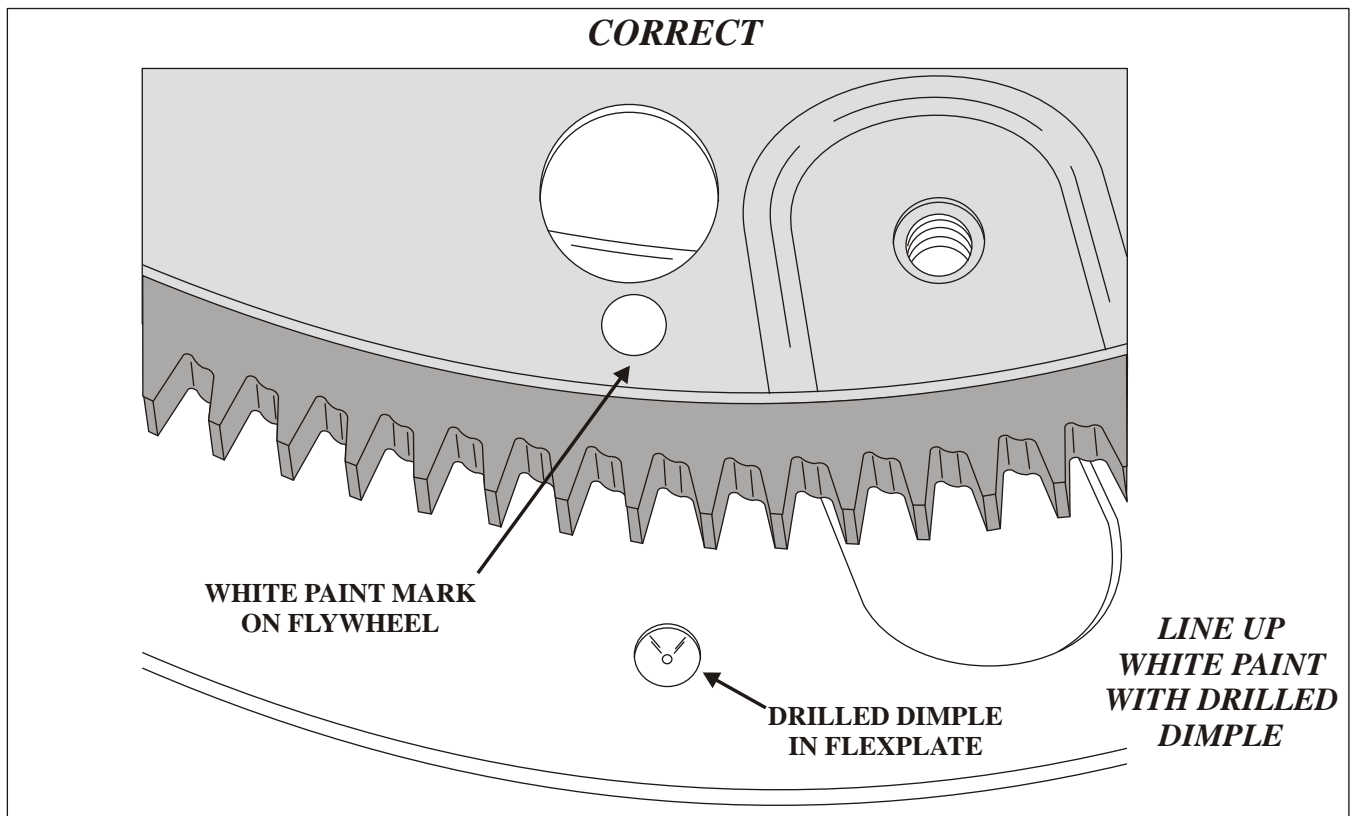

Figure 2
CORRECTION: The flywheel has a white paint mark on it from the factory. The flexplate has a drilled dimple in it from the factory. Line the white paint mark on the flywheel up with the drilled dimple in the flexplate, (Refer to Figure 2), and then bolt it to the crankshaft.
- CORRECTION:** Check air filter and container for dirt and debris. Replace filter if necessary and clean container. Clean or replace MAF sensor if necessary. The Mass Airflow Sensor measures the volume of airflow into the engine, past a thin heated wire. This wire is kept at a temperature of approximately 392 degrees. The increase of airflow will cool the sensor wire. The amount of voltage required to keep the wire at 392 degrees is the signal the PCM calculates to determine engine load. This signal greatly affects line pressure and shift timing. This sensor also affects the engines Long Term Fuel Trim and may not set any codes. A contaminated MAF sensor can over estimate air flow at idle causing the fuel system to go rich and under estimate airflow at high air flows and cause the fuel system to go lean. What this means is Long Term Fuel Trim will learn lean (negative) corrections at idle and rich (positive) corrections at higher air flows. This would be most noticeable at wide-open throttle or high engine load conditions, with symptoms of engine knock and/or lack of power. If the sensor fails the vehicle will go into Failure Mode and Effects Management (FMEM). The PCM will use the TPS sensor to create a MAF signal and the TPS and RPM sensors will determine engine load. Which is why it is better to check the signal at the sensor using a DVOM. The sensor output should read 0.8 to 1.0 volt at idle and increase smoothly to approximately to 4.5 volts at wide open throttle. An air filter that isn't changed often enough might be contaminating the sensor signal wire. Some after market air filters require an oil to be sprayed onto the filter. If an excessive amount of oil is used an oily film can develop on the thin wire affecting the performance of the sensor. The sensor can be cleaned with isopropyl alcohol, carburetor cleaner or brake clean. Make sure that any rubber gaskets or seals are removed prior to cleaning. An incorrect MAF sensor reading will also affect the signal from the Barometric Pressure sensor (BARO). At high air flows, a contaminated MAF sensor will under estimate airflow and cause the PCM to believe the vehicle is operating at a higher altitude. The BARO Sensor PID can be viewed with a scan tool. The correct BARO sensor reading can be viewed in the chart provided in figure 2. The Barometric pressure for your area can also be found on the Internet at Weather.com.